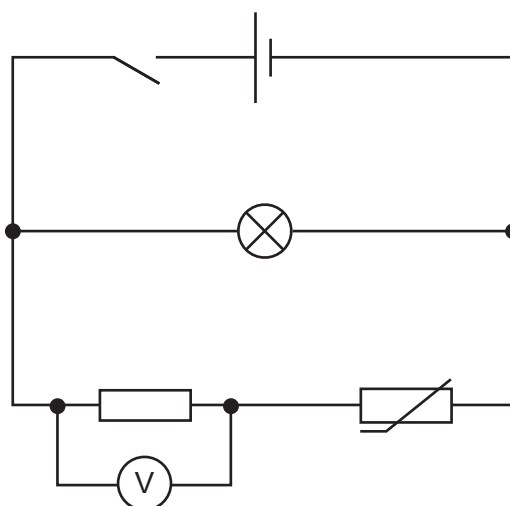

Fig. 2.1
- sufficient connecting leads and crocodile clips to set up the circuit shown in Fig. 2.1. (see Note 4).
4. The supervisor should set up the circuit shown in Fig. 2.1. The beaker of ice and water should be placed safely away from the circuit. The thermistor must be connected to the circuit by leads long enough to allow it to be safely dipped into the beaker of ice and water.
The supervisor must ensure that the circuit is as shown in Fig. 2.1 with the switch open. Supervisors should check that the cell is fully charged and replace it if necessary. The supervisor must also check that the ice in the ice-water mixture has not all melted away and replenish with ice if necessary.